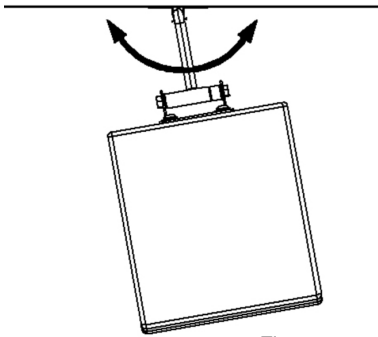

Figure 3a
Step 4: Rotate the speaker horizontally until the speaker is aimed into the desired direction then tighten the socket screw at the mounting plate permanently (Figure 3A and 3B).